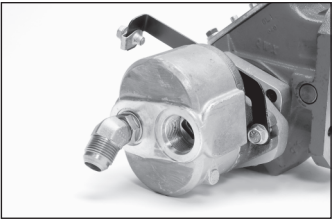

Fig. 11
14. Install the two fittings for suction and discharge in the ports on the pump. Due to the angle of the fittings, install the discharge port fitting first. Do not tighten these fittings at this time (See Fig. 11 & 12). Screw fittings in by hand until back-up washer contacts the face of the boss.